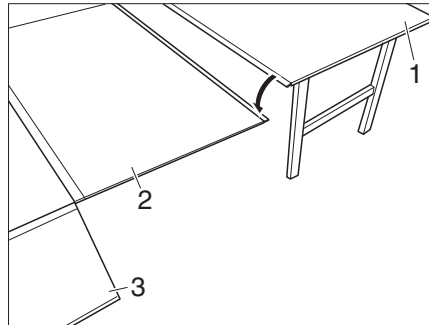
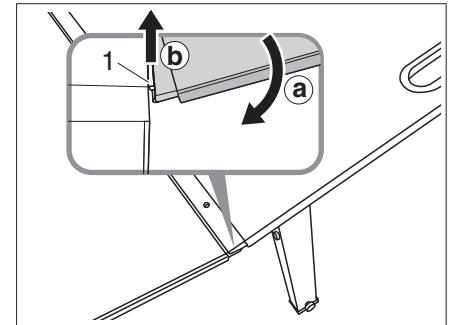

Fig. 29 Attach the table extension
Fig. 30 Attach the table
- Position the bed extension (Fig. 29,2) on the rails (Fig. 30,1) of the Campbox and push downwards (Fig. 30,a).
- Lift both rails at the connection points (Fig. 30,b). The rails will snap-lock into one another.
- Snap the table (Fig. 29,1) into the table extension (Fig. 29,2) in the same way (Fig. 30).